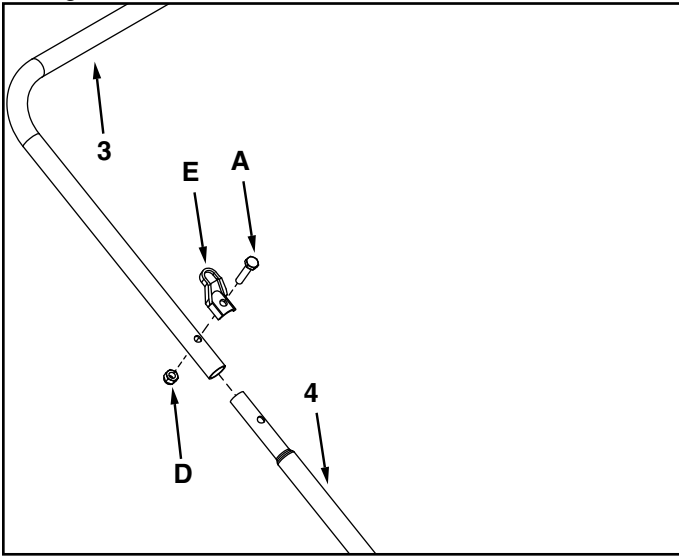

FIGURE 3
- (1) Adjustable Wrench
- (2) 7/16" Wrenches
- Assemble the upper handle tube (3) over the handle leg stand tubes (4). Align holes in handle and assemble the bag rod clips (E) to the handle as shown and fasten with 1/4" x 1-1/4" hex bolts (A) and nylock nuts (D). See figure 3.